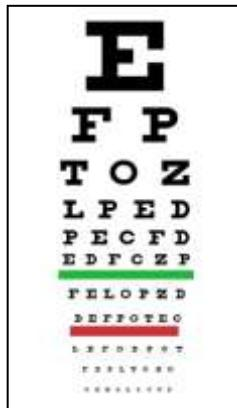

Figure 22. Eye Chart
11. Manually focus the camera lens by placing the "Eye Chart" Figure 22, in front of the Test Chart.
24. If the camera has to be manually refocused, place the "Eye Chart" Figure 22, in front of the Test Chart and adjust focus as described in Steps 11-15 above.